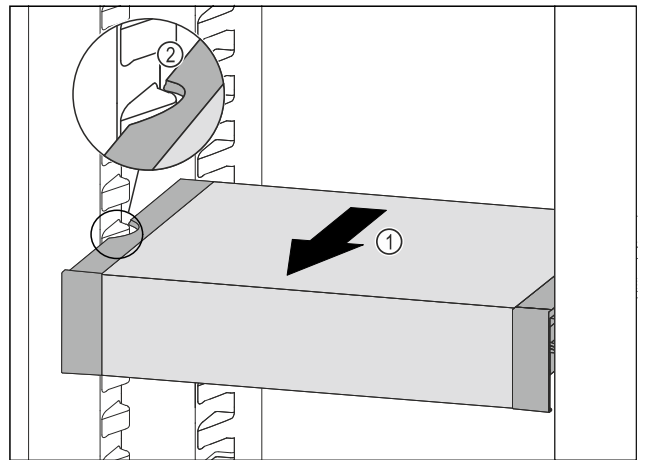

Fig. 60
- ▶ Pull VarioSafe forwards Fig. 60 (1) until the recesses in the side of the VarioSafe are at the level of the support rib in the refrigerator compartment. Fig. 60 (2)